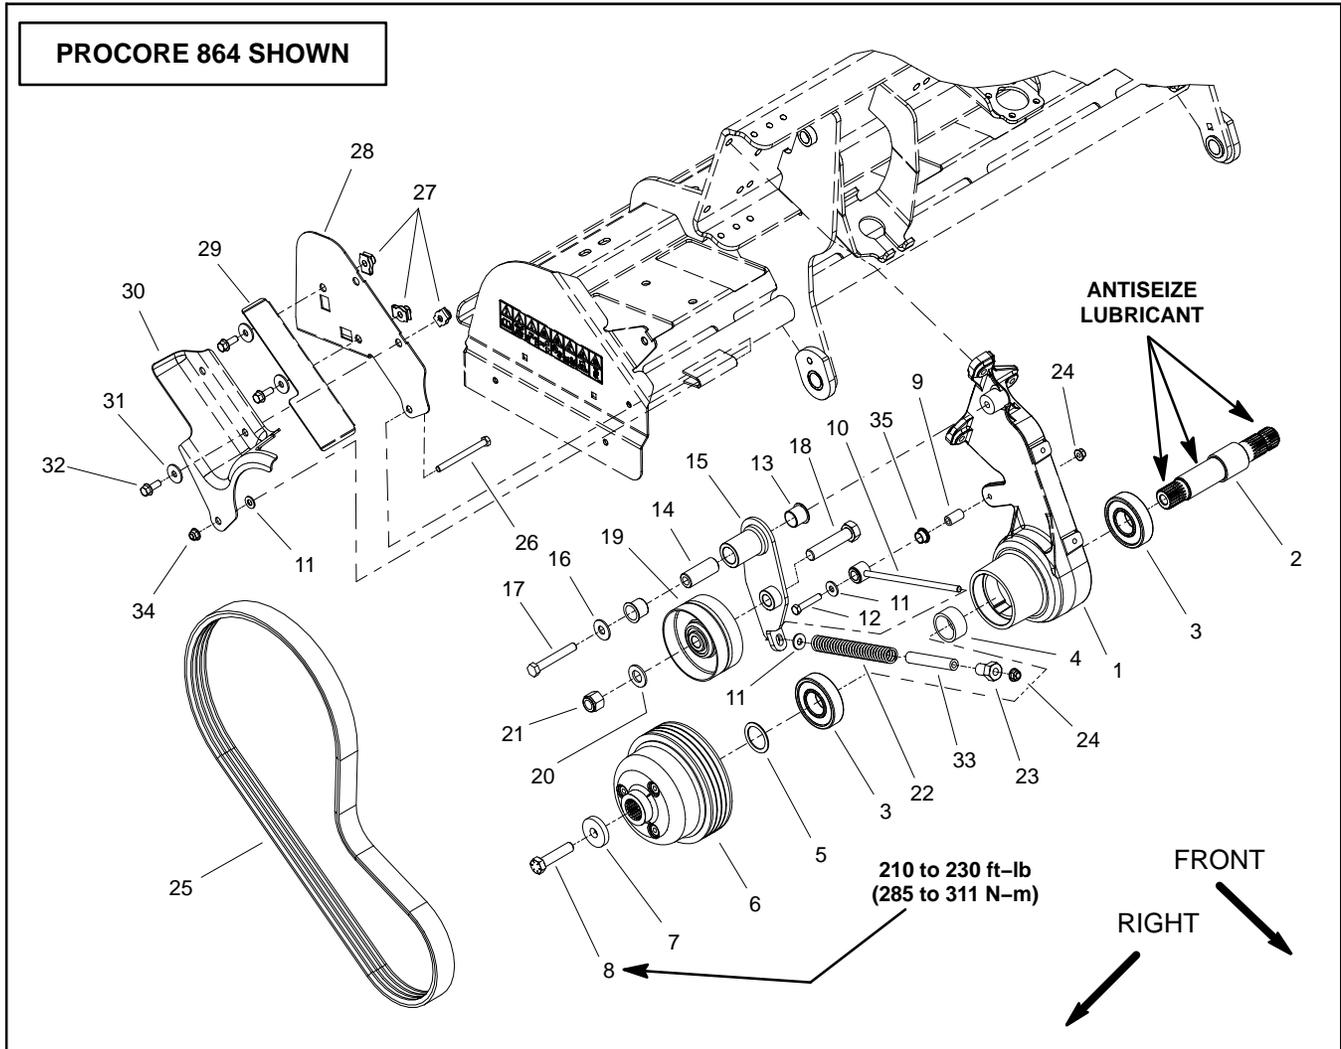

Figure 27
Removal (Fig. 27)
6. Remove pulley (item 6) from pulley shaft:
C. If needed, the use of three (3) .375" – 16 UNC – 2B screws (see Special Tools) can be installed into threaded holes of pulley to aid in pulley removal. Tighten screws progressively and evenly until the pulley is loose on the pulley shaft.
7. Remove additional components as necessary using Figure 27 as a guide.
Installation (Fig. 27)
1. Install all removed components using Figure 27 as a guide.
- A. If pulley shaft (item 2) was removed, apply anti-seize lubricant to shaft bearing surface before sliding shaft into bearing bores.
- B. Apply antiseize lubricant to splines of pulley shaft (item 2) before installing pulley and driveshaft.
C. As drive pulley (item 6) is being installed, place 0, 1 or 2 shims (item 5) between outer shaft bearing and drive pulley to align drive pulley with driven pulley on coring crankshaft. Pulleys should be aligned within 0.070" (1.8 mm).